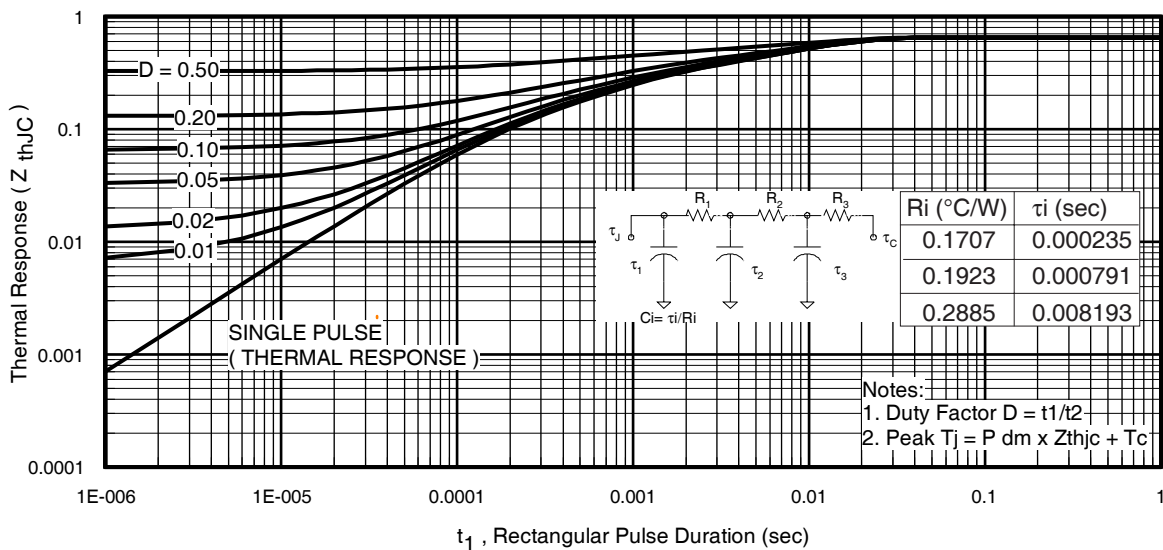

Fig 11. Maximum Effective Transient Thermal Impedance, Junction-to-Case
- ① Repetitive rating; pulse width limited by max. junction temperature. (See fig. 11).
- ② Limited by T_{Jmax} , starting $T_J = 25^\circ\text{C}$, $L = 0.064mH, R_G = 25\Omega, I_{AS} = 88A, V_{GS} = 10V$. Part not recommended for use above this value.
- ③ Pulse width $\leq 1.0ms$; duty cycle $\leq 2\%$.
- ④ $C_{oss \text{ eff.}}$ is a fixed capacitance that gives the same charging time as C_{oss} while V_{DS} is rising from 0 to 80% V_{DSS} .
$Z_{thJC}(D, t_{av})$ = Transient thermal resistance, see figure 11)